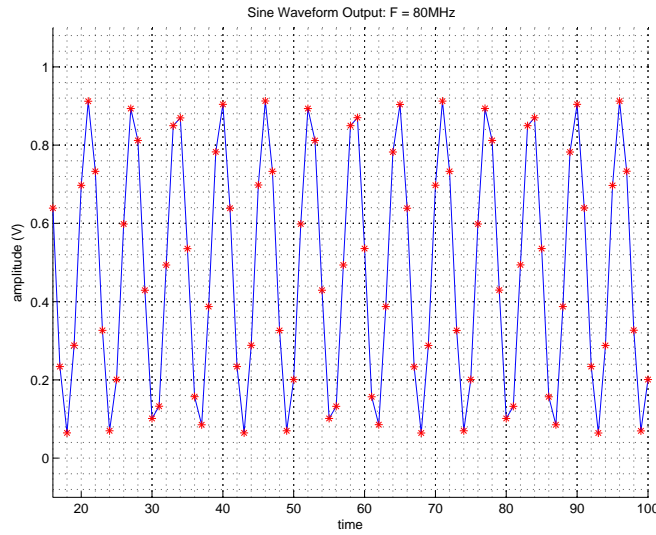

Figure 4.18: Measured: ADS5463 Digitized 80MHz Sine Wave; Time Domain
i. Sine Waveform @ F = 80MHz; Time Domain (See Figure 4.18.)